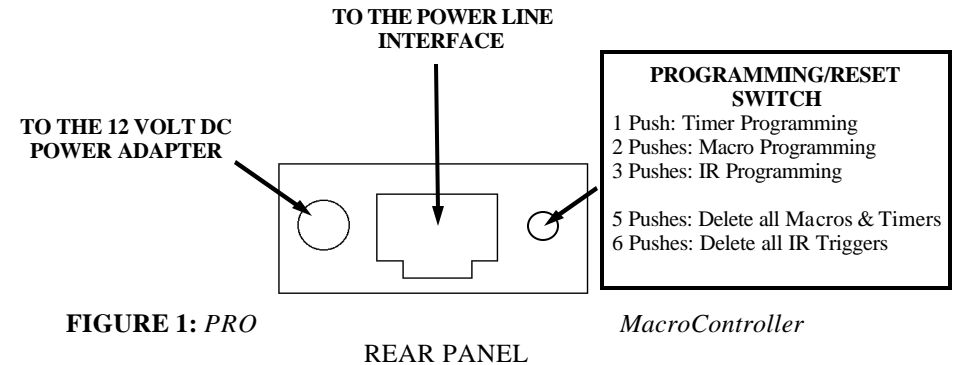

FIGURE 1: *PRO*
- 2 Connect one end of the provided modular cord into the Power Line Interface and the other end into the modular jack on the back of the *PRO MacroController* (see Figure 1).